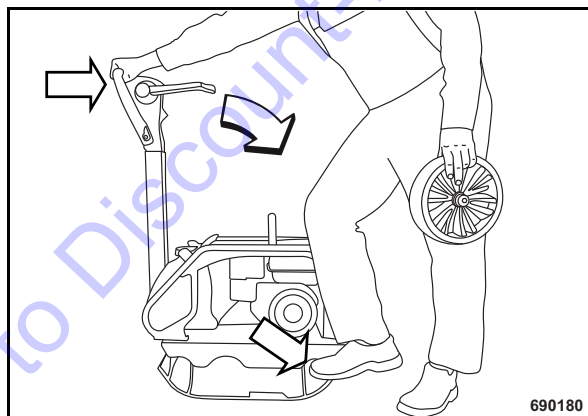

Fig. 33
- Tilt the machine forward by the steering rod (Fig. 33).